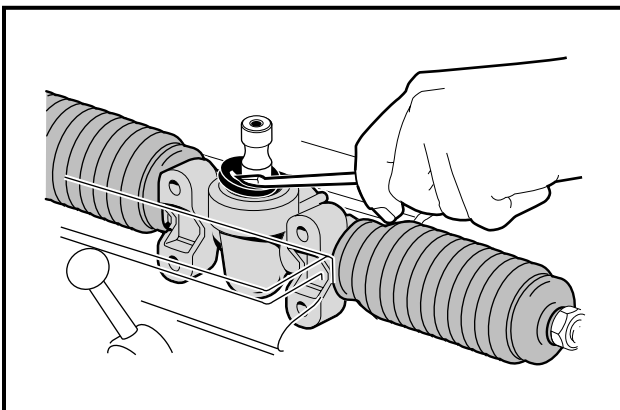

Figure 7-14 Remove Dust Seal
7. Remove the dust seal (**Figure 7-14, Page 7-9**).